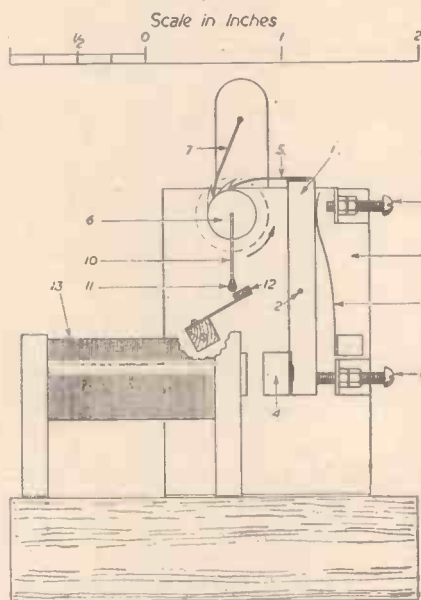

Fig. 11.—Impulse relay (near-side plate removed).
THE impulse relay is illustrated in Fig. 11.
Referring to Fig. 11, a rocker arm (1) pivoted at (2) is carried between two sheet brass supporting plates (3), the backplate only being shown. At its lower end the arm carries a soft iron armature (4), and at its upper end a gathering pawl (5) consisting of a piece of .010 in. steel soldered to the top of the arm and at right-angles thereto, as shown. The armature (4) is riveted to a lug on the bottom of the arm.
The contacts of the Siemens relay are connected in series with the terminals of the electro-magnet (13) Fig. 11 and a supply
sufficient to operate this magnet so that it attracts the armature (4) Fig. 11.
The pendulum is now swung gently to the left, carrying the shutter with it. In so doing the aperture is opened and light falls on the plate which then generates a current sufficient to swing the needle of the micro-ammeter movement over so that the contacts of the movement complete the circuit through the coils of the Siemens relay. The contacts of the latter are then closed and complete the circuit through the magnet of the impulse relay, whereupon the pawl (5), Fig. 11, gathers one tooth of the wheel (6).